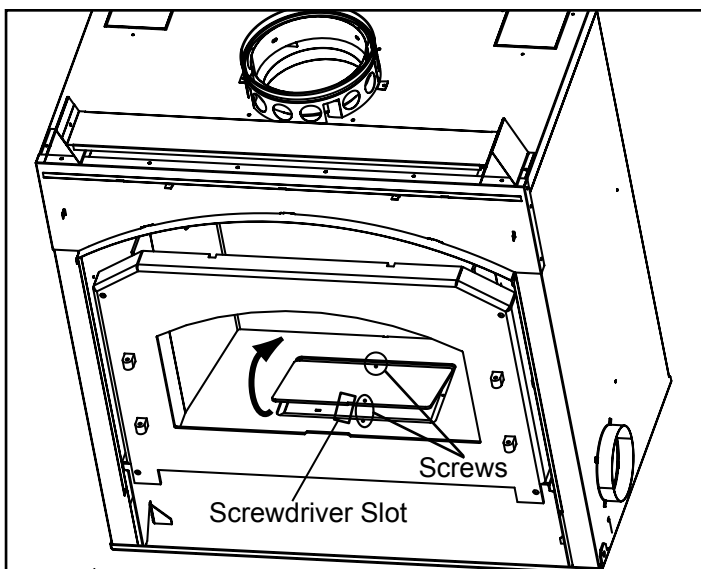

Figure 30.1 Accessing Fan Motor
2. Remove the 2 screws from the access panel in the firebox floor. See Figure 30.1.